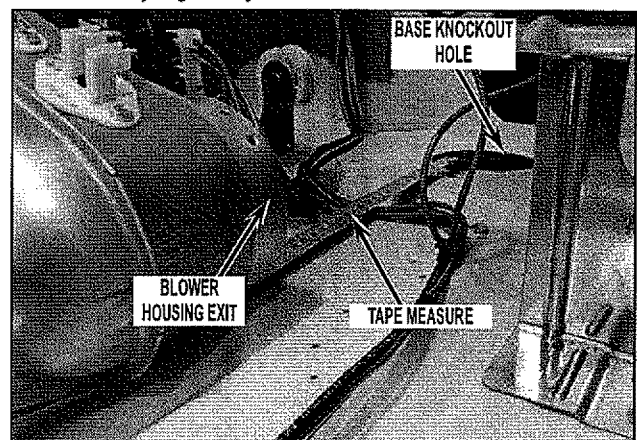

FIGURE 14
- Measure distance from blower housing exit to the knockout hole front edge. See *Figure 14*. If distance is 270 mm (10.50"), then create a tube sub-assembly by combining the 86 mm (3.40") long vent tube, the elbow and two clamps included in kit. If distance is 300 mm (11.70"), then use the 116 mm (4.57") long vent tube instead. Slightly tighten clamps to hold assembly together yet allow for movement at this time.